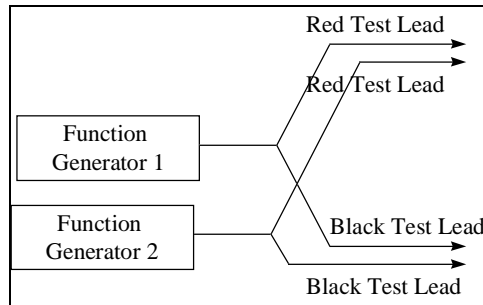

Figure 4. Function Generator Connection for LPF and HPF Filters
9. Apply the signal to the circuit by connecting the leads as shown in Figure 4. Move the channel 1 probe to the output of the filter. Run WAVEFFT.VI using the same time span, saving the data with a different filename. Measure the amplitude of the main peaks in the displayed spectrum.